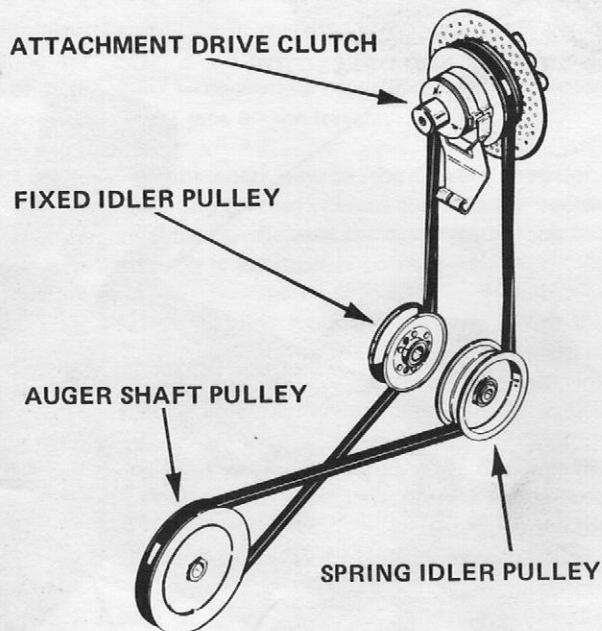

FIGURE 8
13. See Figure 8. Place the belt under the "fixed" idler pulley and around the "auger shaft" pulley. Push down on the "spring idler" pulley lever and locate the belt on the underside. Check the belt to make certain it is correctly installed with the "vee" side in the vee groove pulleys and the "flat" side in the flat groove idler pulley.